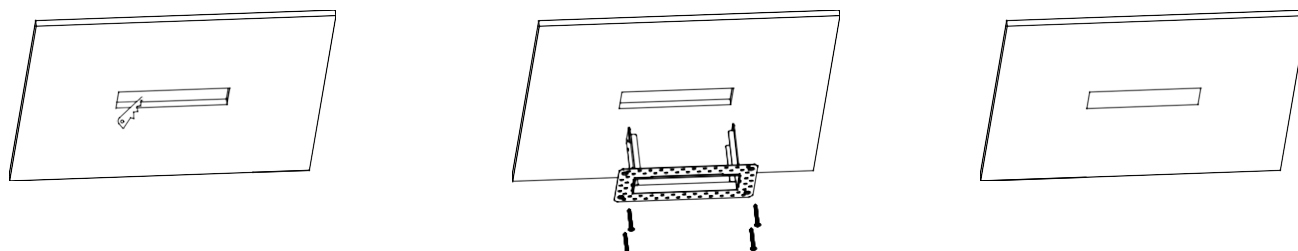

Figure 1
1. Select the corresponding ceiling hole size according to the lamp specifications and models, open the installation hole of the infinity screen on the ceiling, and then lock the infinity screen on the ceiling board through the self-tapping screws, and finally smooth the edge of the infinity screen around the lime, as shown in Figure 1.